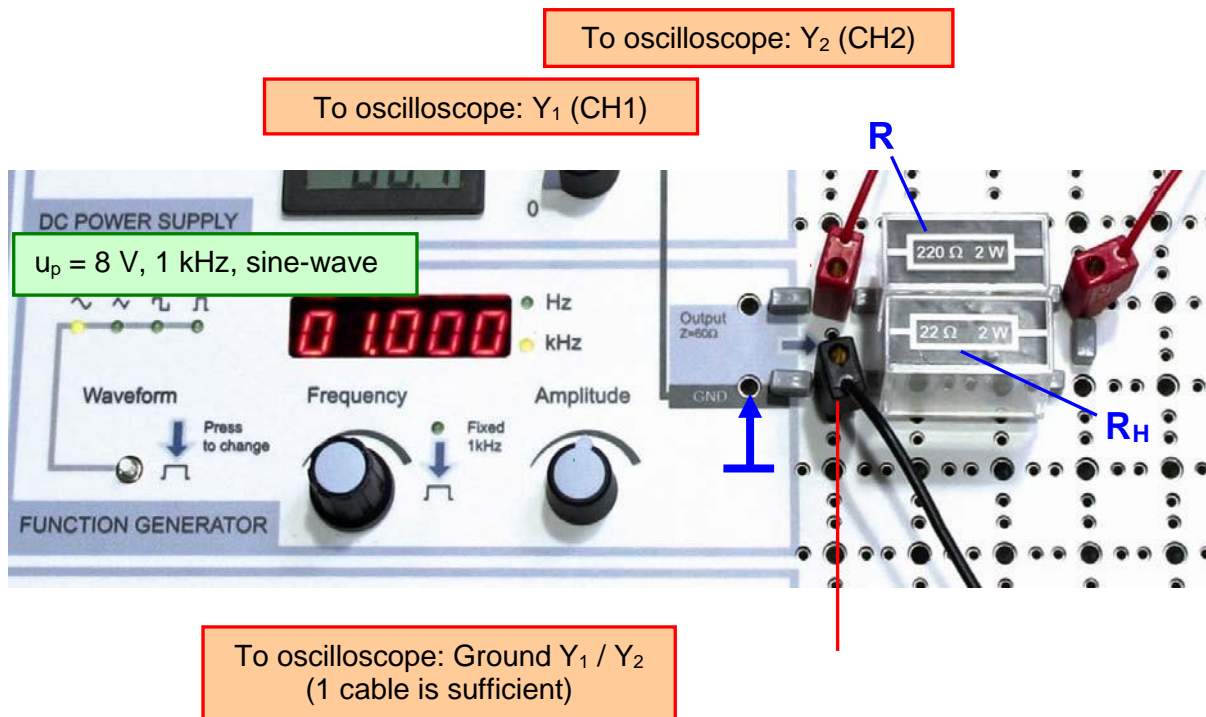

Fig. 8.6.1: Assembly and measurements, Active power, on the Electronic Circuits Board
- Assemble the circuit in Fig. 8.5.1 on the Electronic Circuits Board. Connect the outputs of the circuit to the channel inputs of the oscilloscope (assembly and measurement details are in Fig. 8.6.1).